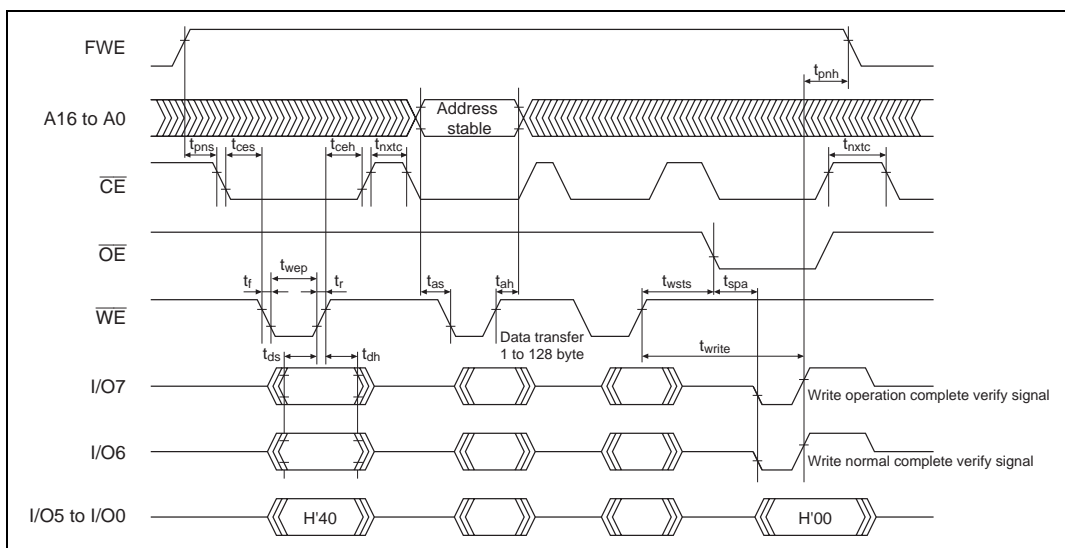

Figure 18.24 Auto-Program Mode Timing Waveforms
4. Memory address transfer is performed in the second cycle (figure 18.24). Do not perform transfer after the third cycle.